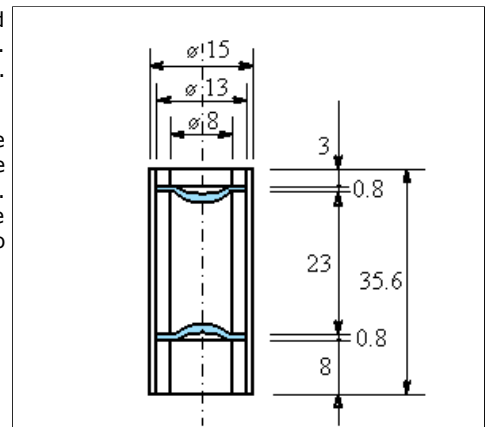

Figure 7 - Eyepiece
- Plastic tubes of suitable diameter to make the eyepiece and the objective (see Figures 7 and 8)
scheme, which is explained later on. Mount the lenses with the convex side turned inward (see Figure 7). The distance between the lenses has to be about 2/3 of their focal length. Hence, if your lenses have a focal of 35 mm, you will have to separate them by 23 mm. Later on we will see how to calculate the magnification of this eyepiece.